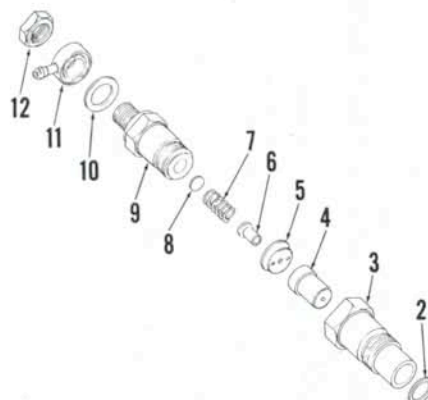

Fig. 141 — Exploded view of typical injection nozzle.
78. OPENING PRESSURE. Operate tester lever slowly while observing tester gage reading. Opening pressure should be 11720 kPa (1700 psi) for all models. Opening pressure is adjusted by adding or removing shims in shim pack (8—Fig. 141).
Refer to Fig. 141 for exploded view and proceed as follows: